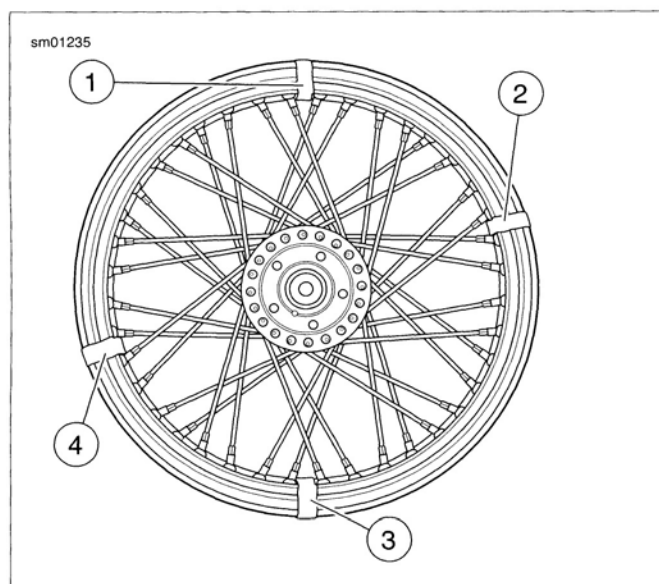

Figure 2-22. Marking Spoke Groups
- See Figure 2-22. Place a piece of tape to mark the center of each group of four spokes as shown. The groups should be directly opposite one another and approximately 90 degrees apart. Using different colors of tape or numbering each group is helpful.